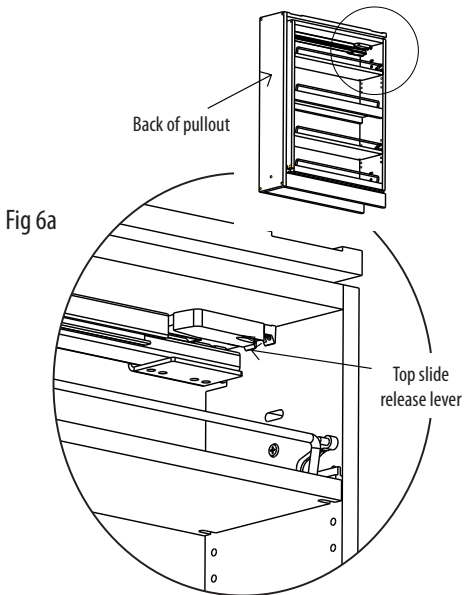

Fig 6a
**Note:** Your pullout unit does not need to be removed for installation. If you encounter an issue that requires the unit to be removed, the release levers for the Blum Tandem slides are located as shown. (See Fig 6a-b).